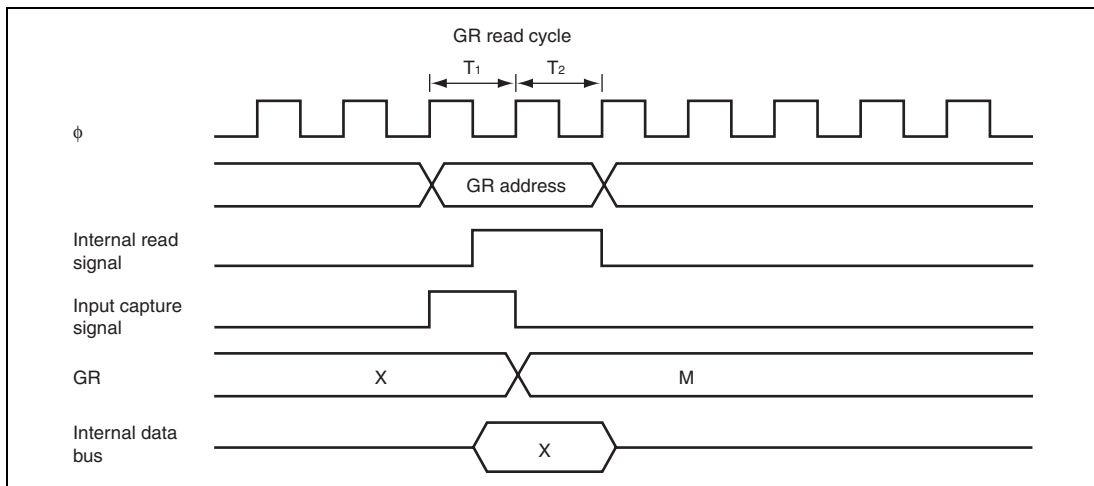

Figure 12.56 Contention between GR Read and Input Capture
5. Contention between GR Read and Input Capture: If an input capture signal is generated in the T_1 state of a GR read cycle, the data that is read will be transferred before input capture transfer. Figure 12.56 shows the timing in this case.